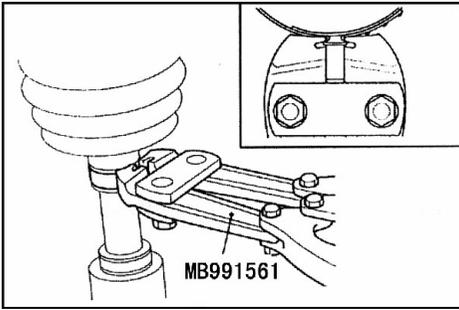

Fig.12-37
⑨ Check that the R.J. boot band is not sticking out past the place where it has been installed.if the R.J. boot band is sticking out, remove it and then repeat the operation in steps 6 to 8 using a new R.J. boot band.(see Fig.12-37)。